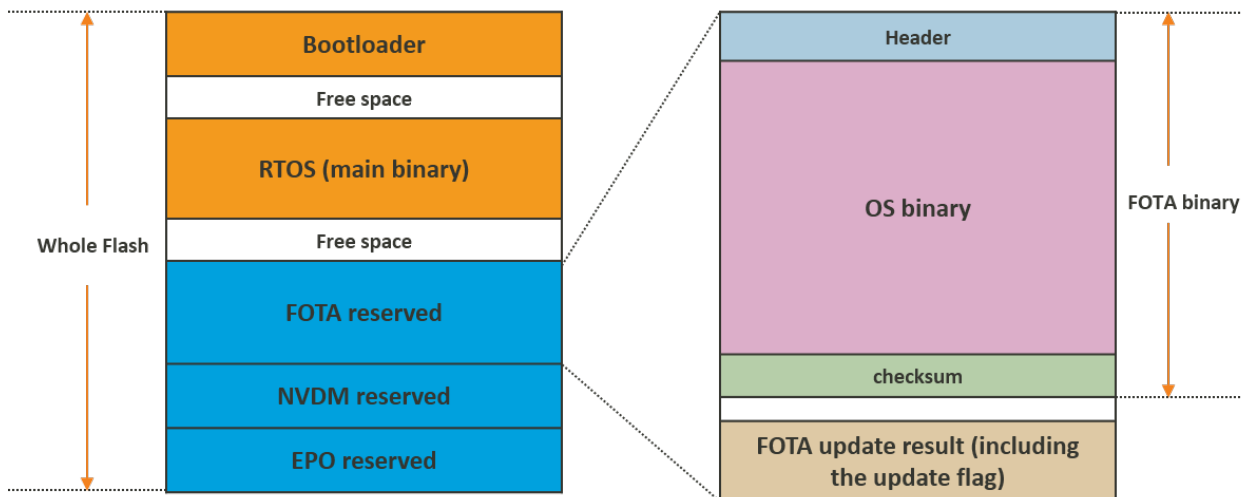

Figure 13. FOTA binary reserved memory
There is a power failure protection for the OS binary (main binary) update. Before the OS binary update, the Update Agent writes a marker to the flash, as shown in Figure 13. After the OS binary update is complete, the marker is cleared from the flash. If power failure occurred during the OS binary update, the **Update Agent** checks marker to restart the process.
- 2) In Device Manager, navigate to **Ports (COM & LPT)** (see Figure 13).
- 4) A new COM device should appear under **Ports (COM & LPT)** in Device Manager, as shown in Figure 13. Note the COMx port number of the **USB Serial Port**, this information is needed to complete configuration of PuTTY.